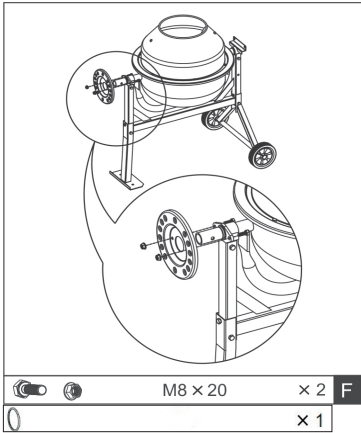

Fig.10
7. A spiral ring is pre-assembled. Remove the spiral ring from the shaft. Then slide the locking plate onto the longer end of the shaft. The frame of the plate points inwards. Slide the plate over the shaft. Slide the spiral ring onto the shaft. Fix the locking plate with two screws of type M8x20 (F), Fig.10